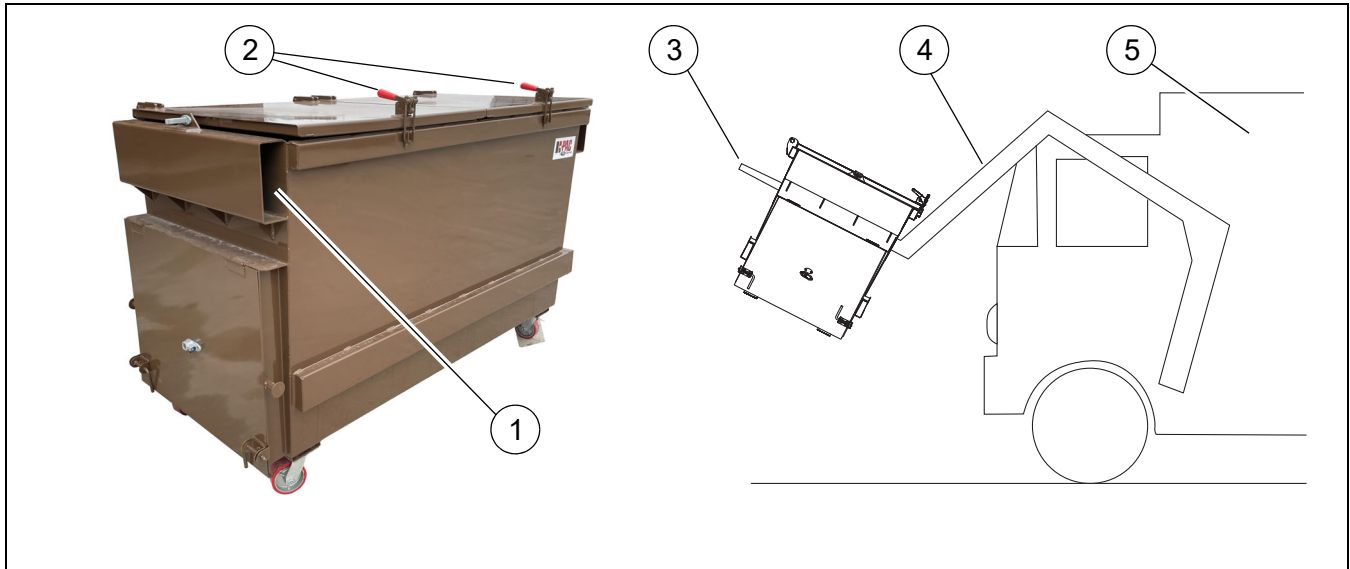

Figure 21
- Position the container to access the fork sleeves (**Figure 21, 1**) from the side with the top cover latches (**Figure 21, 2**).
- Align the front loader forks (**Figure 21, 3**) into the sleeves of the container.
- Raise the front loader arms (**Figure 21, 4**) to lift the container.
- Roll the forks to empty the container into the hopper (**Figure 21, 5**).